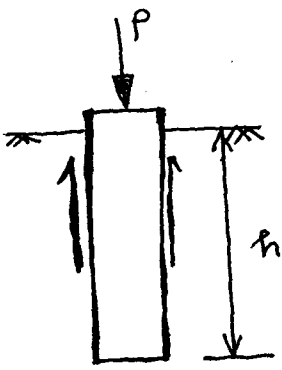

Fig. Q6
Q.6. A pile of uniform section is embedded in soil by a depth  $h$  (Fig. Q6). The pile supports a structural load  $P$  at its top which is transferred to the soil entirely by friction. The variation of friction ( $f$ ) along the depth of the pile is given by  $f = ky^2$ , where  $y$  is the elevation above the bottom of the pile. Determine the shortening of the pile. Axial rigidity of the pile  $AE$ .